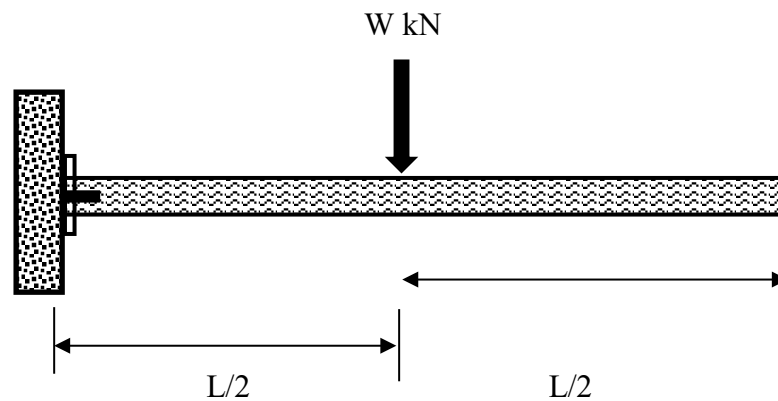

Figure B2(a) / Rajah B2(a)
- (a) The Figure B2(a) below shows a fixed end beam is loaded to point load in the middle of span. When a beam is being loaded as shown in figure below, bending stress will be resulted. Using the suitable sketching, identify the position of compressive and tensile bending stress.